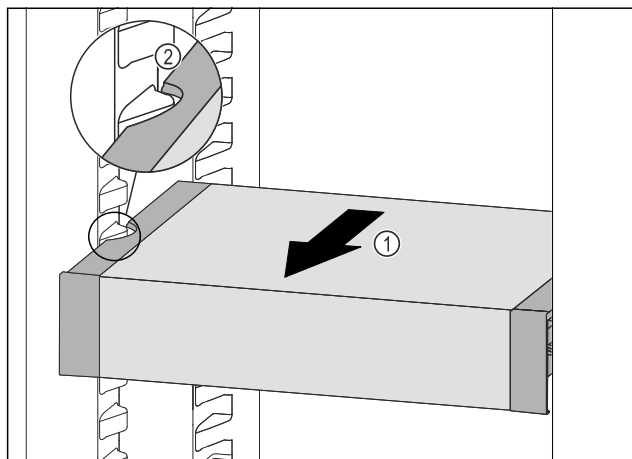

Fig. 40
- Pull VarioSafe forwards Fig. 40 (1) until the recesses in the side of the VarioSafe are at the level of the support rib in the refrigerator compartment. Fig. 40 (2)